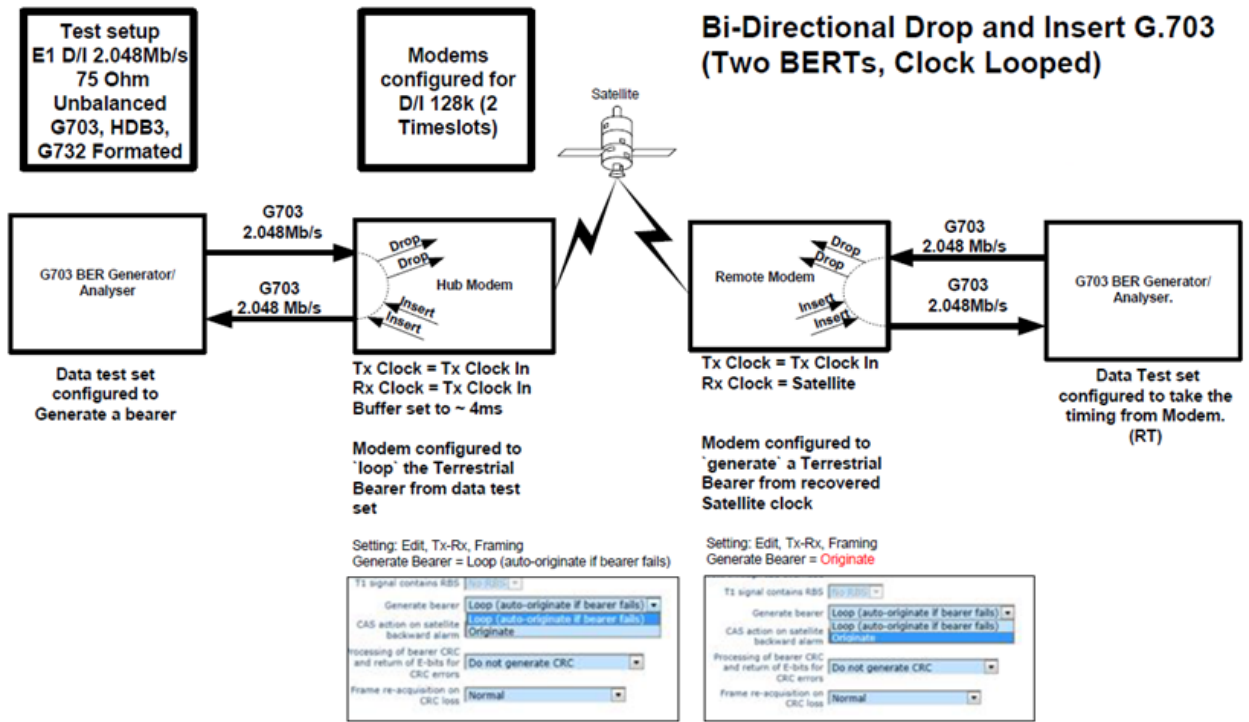

Figure 13-7 G.703 Master/Slave Clocking (single clock looped at remote modem)
This controls the origination of a terrestrial bearer from the Insert MUX. *Loop (auto-originate)* loops the existing external bearer through the modem (thereby retaining the original bearer timing when inserting timeslots from satellite). It will also auto-originate a bearer should the bearer fail. *Originate* causes the modem to generate a new bearer. Typical usage is shown in **Figure 13-7**, which shows a master/slave clocking system where the bearer clock is propagated over satellite and looped at one end of the link.
- *Generate bearer*. This supports options of *Loop (auto-originate if bearer fails)* and *Originate*. This controls the origination of a terrestrial bearer from the Insert MUX. *Loop (auto-originate if bearer fails)* loops the existing external bearer through the modem (thereby retaining the original bearer timing when inserting timeslots from satellite). It will also auto-originate a bearer should the bearer fail. *Originate* causes the modem to generate a new bearer. Typical usage is shown in **Figure 13-7**, which shows a master/slave clocking system where the bearer clock is propagated over satellite and looped at one end of the link.